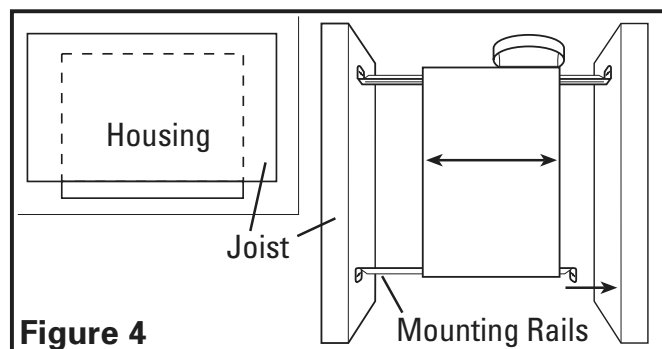
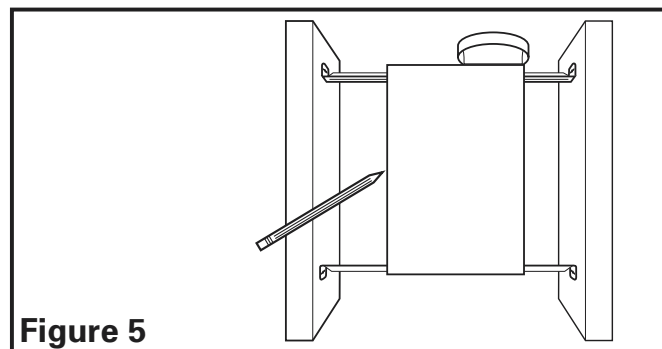

Figure 4
Figure 5
1. Install the rails on the housing and position the housing next to the joist. Line up housing so it will be flush with the finished ceiling. Secure the ends of the rails with screws or nails (not included) to the joists and slide housing into final position **(Figure 4)**.
1. Set housing in position between the joist and trace an outline onto the ceiling material **(Figure 5)**. Set housing aside and cut opening, being careful not to cut or damage any electrical or other hidden utilities. Install the rails on the housing and position the housing in the previously cut hole so that it is flush with the finished ceiling. Secure the ends of the rails to the joists with screws or nails (not provided) to ensure proper installation **(Figure 4)**.